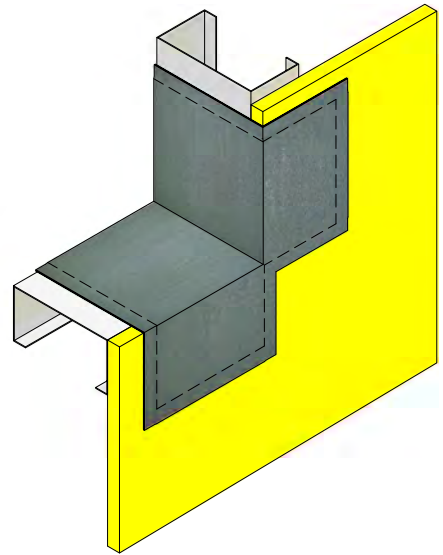

Figure 7
3. Apply additional SENERSHIELD-R or SENERSHIELD-VB onto the SHEATHING FABRIC to completely saturate and embed. Verify SHEATHING FABRIC is smooth, free of wrinkles and voids. (See Figure 7)